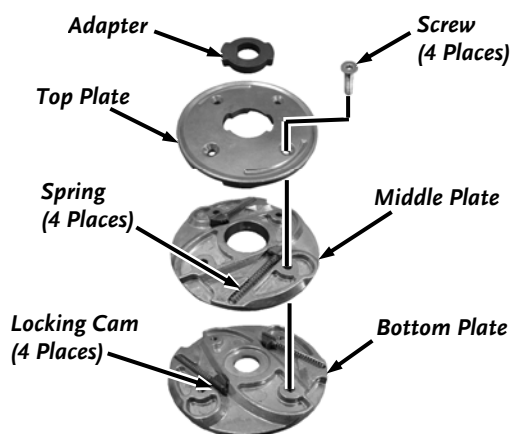

Figure 10
2. Remove the four Screws from the Quick Lock using a 3mm Allen Wrench (**Figure 10**).